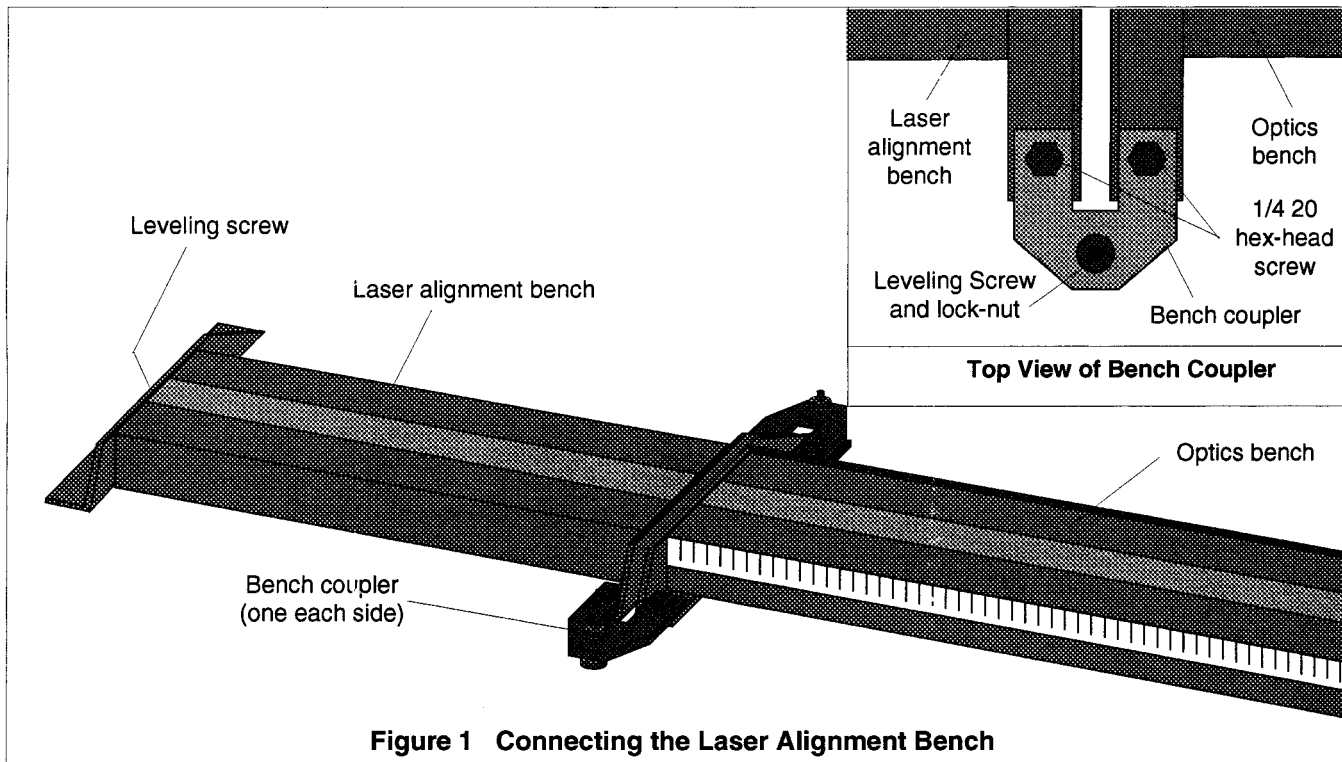

Figure 1 Connecting the Laser Alignment Bench
1. Place the optics bench and the laser alignment bench end to end, as shown in Figure 1. Notice that only one end of the laser alignment bench has holes for two leveling screws. That is the end that joins to the optics bench.